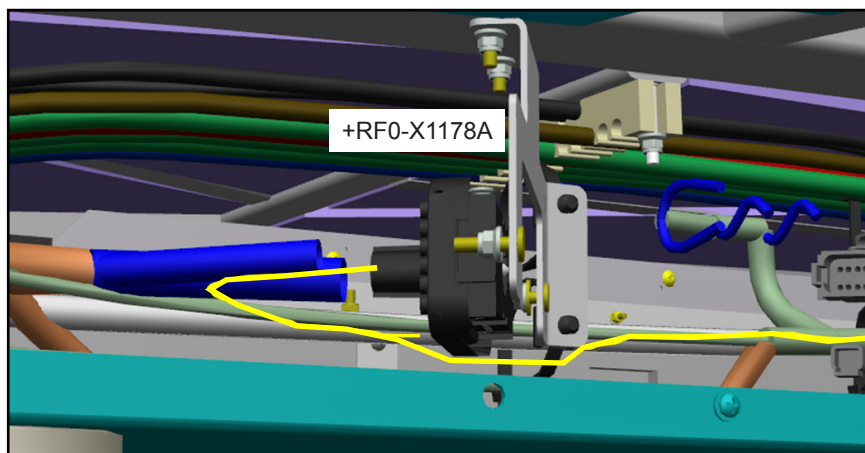

Figure 11 - Connector +RF0-X1178A Positioning
1.20. Connect the cables CAB001VAA and CAB001VAB to +RF0-X1178A (see Table 4 and Figure 11).